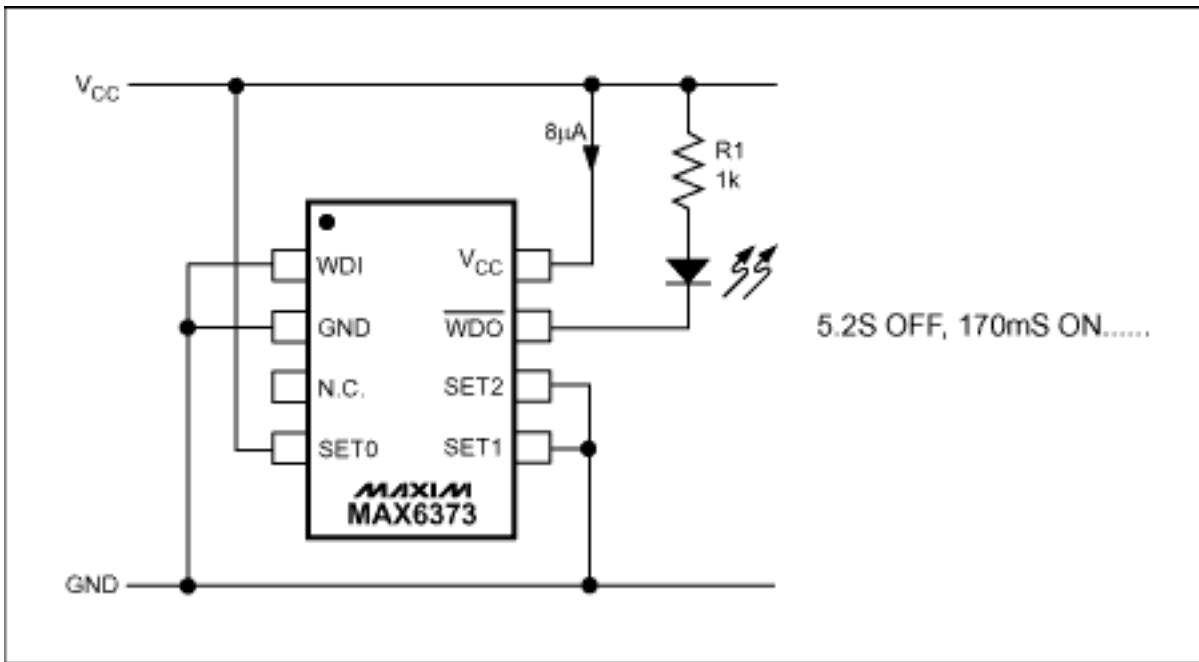
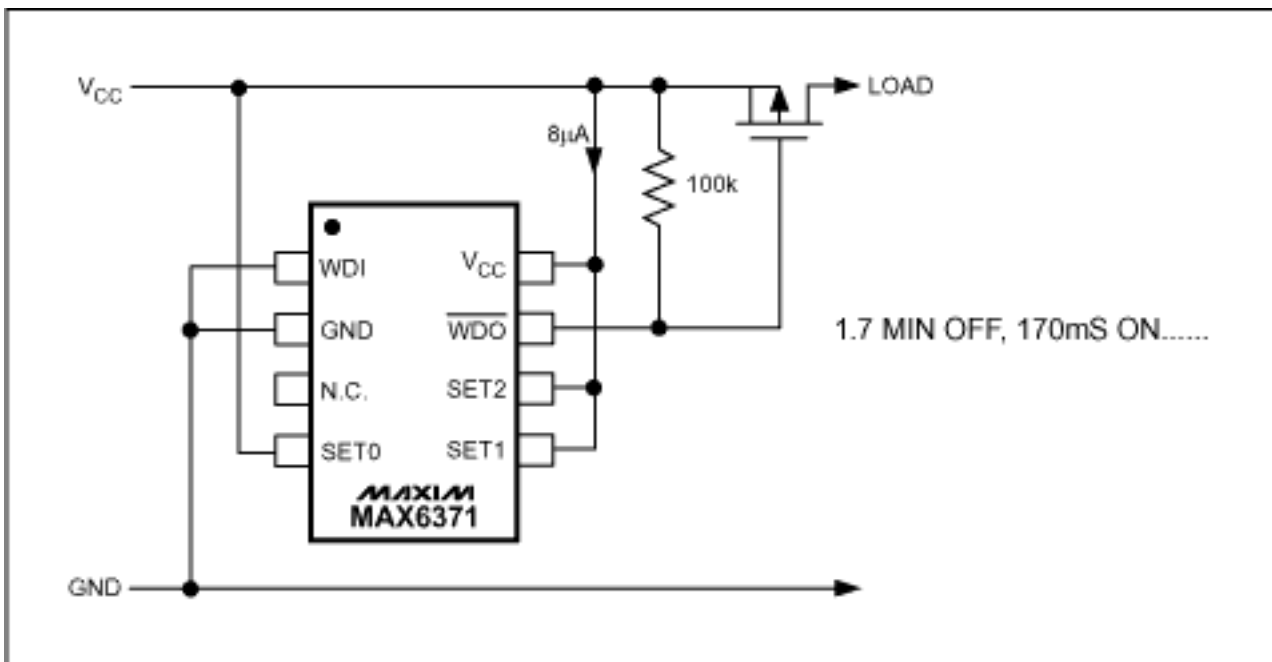

Figure 1. Blinking LED indicator saves power.
Figure 2. Pulse load to save power.
**Figure 1** uses MAX6373 set up to pulse active-low WDO low for 170ms every 5.2s. The load is a front panel "power on" LED with a 1k current limiting resistor. By pulsing the LED rather than having it on continuously the average current taken reduces by a factor of 30 (2.4mA down to 88 $\mu$ A (80 $\mu$ A + 8 $\mu$ A Iq) giving an indication the equipment is on without draining the batteries too much. By changing the SET pins to SET0 = 0V, SET1 = SET2 =  $V_{CC}$  the off time can be extended to 17s reducing the average current to 32 $\mu$ A (24 $\mu$ A + 8 $\mu$ A Iq).
**Figure 2** is similar to Figure 1 but uses a MAX6371 to turn on a load for 170ms every 1.7mins (104s). The load could be a battery powered monitoring circuit that lies idle saving power then wakes up to make a measurement, then log it or send a warning if it is out of spec. Maybe a water level getting too high.